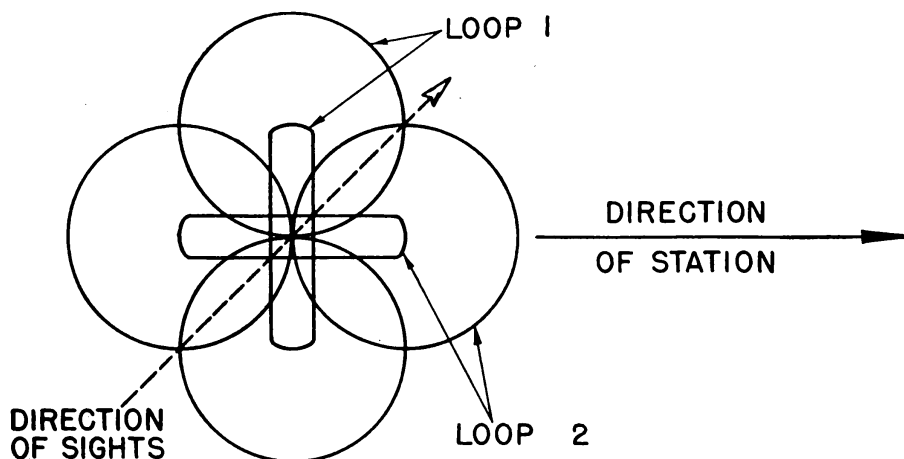

FIGURE 17. Double loop antenna pattern.
b. **Double loop.**—Now consider two of these loops of identical characteristics, mounted at a fixed angle of 90° to each other on a common mounting. If a vacuum tube voltmeter is used to measure the output of each loop, the plotted results will show two figure 8 patterns displaced by 90° (fig. 17).
The arrow shows the direction in which loop sights are pointing with respect to the position of the loops. If the signal is coming from the station (fig. 17), the pickup of loop 1 is a minimum, or zero, and the pickup of loop 2 is a maximum. If the loops are rotated 45° so that the arrow points toward the station, the pickup in both loops will be equal. This is the principle used in Radio Set SCR-503-B to determine the direction of the station.